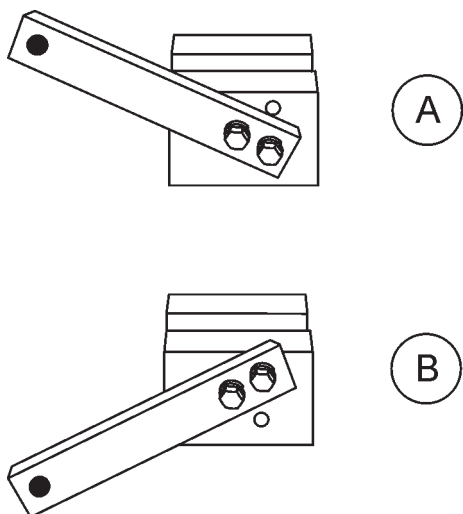

Figure 30. Trowel Arm Adjustment Setup
2. Ensure the fixture arm is in the proper setting (up or down) for your trowel arm rotation as shown in Figure 30.
Arms with **CLOCK-WISE** blade rotation use the fixture arm in the **UP** position (A in Figure 30). Arms with **COUNTER CLOCK-WISE** blade rotation use the fixture with the fixture arm in the **DOWN** position. (B in Figure 30).